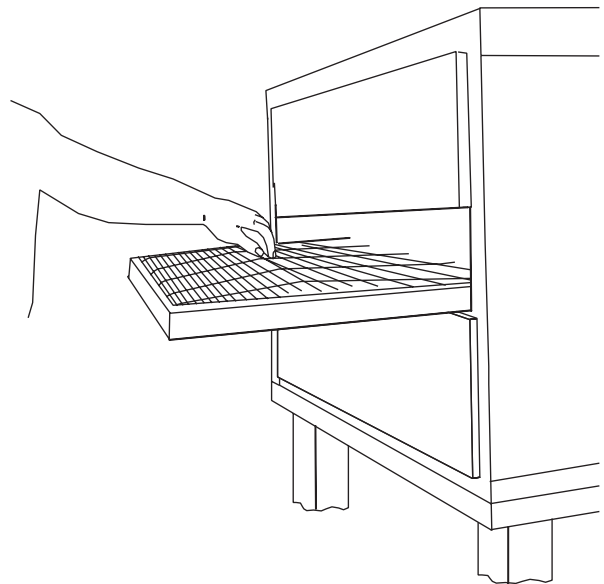

Figure 4-23
1. With the conveyor assembly in the oven, stand at one end of the conveyor and check tension by lifting the conveyor belt at the center of the oven chamber opening (see Figure 4-23). The belt should not lift higher than 1" to 2" (75mm to 102mm).